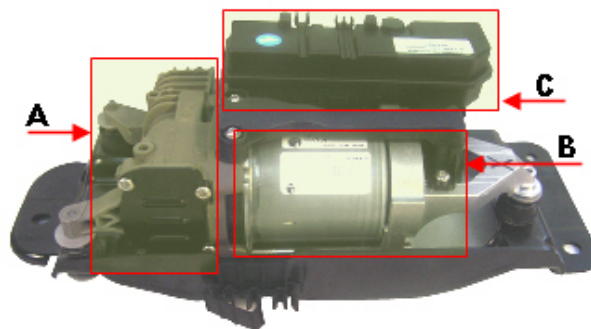

Fig. 1
- section (A): cylinder – piston (Fig. 1)
- section (B): electric motor (Fig. 1)
- section (C): solenoid valve unit (Fig. 1)